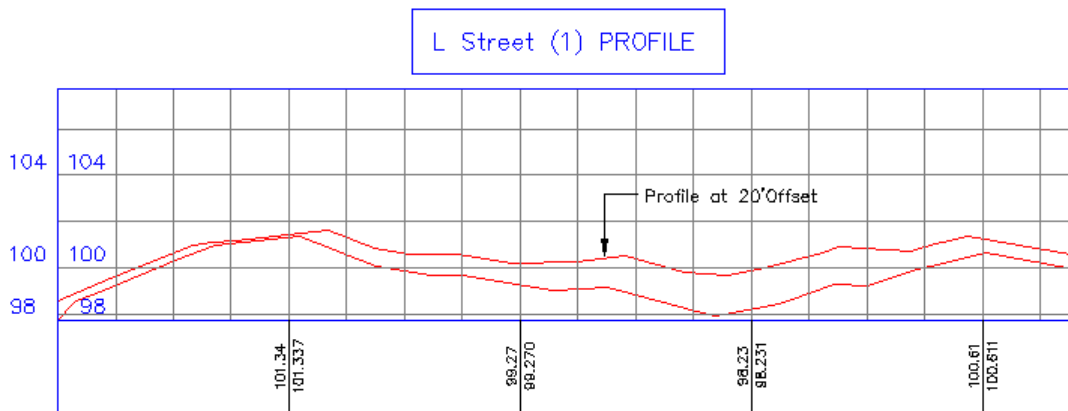

Figure 6-40 The L Street (1) Profile view with an offset profile
8. Click in the drawing area to place the profile view in the selected origin; the profile view and the offset are created, as shown in Figure 6-40.